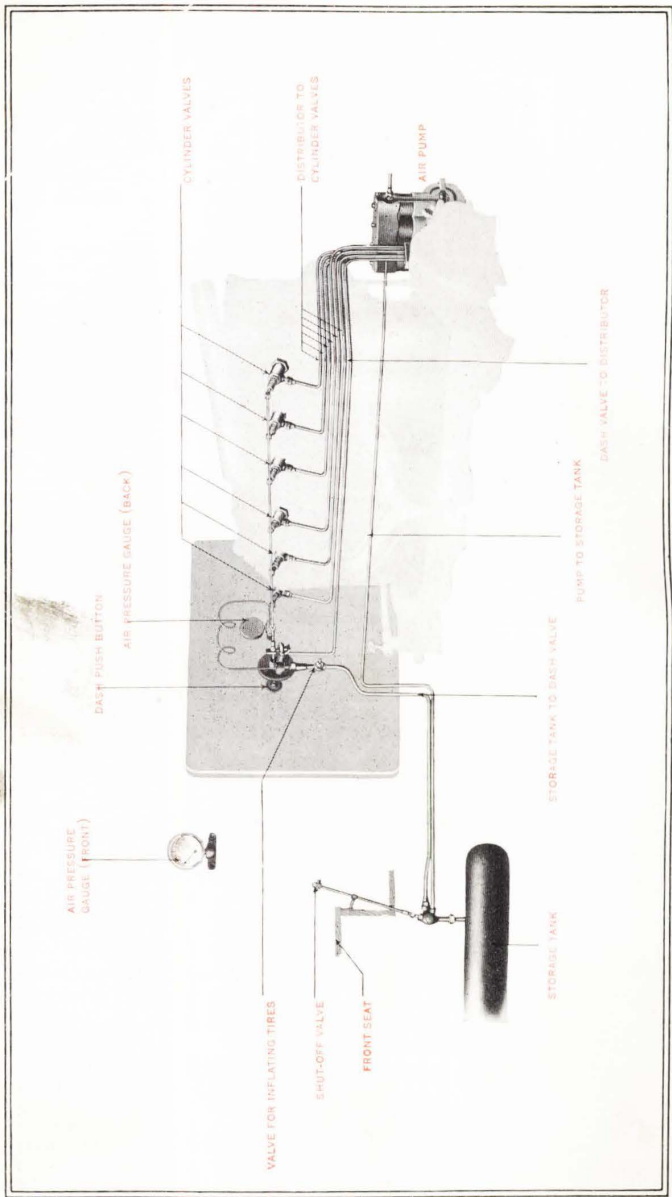
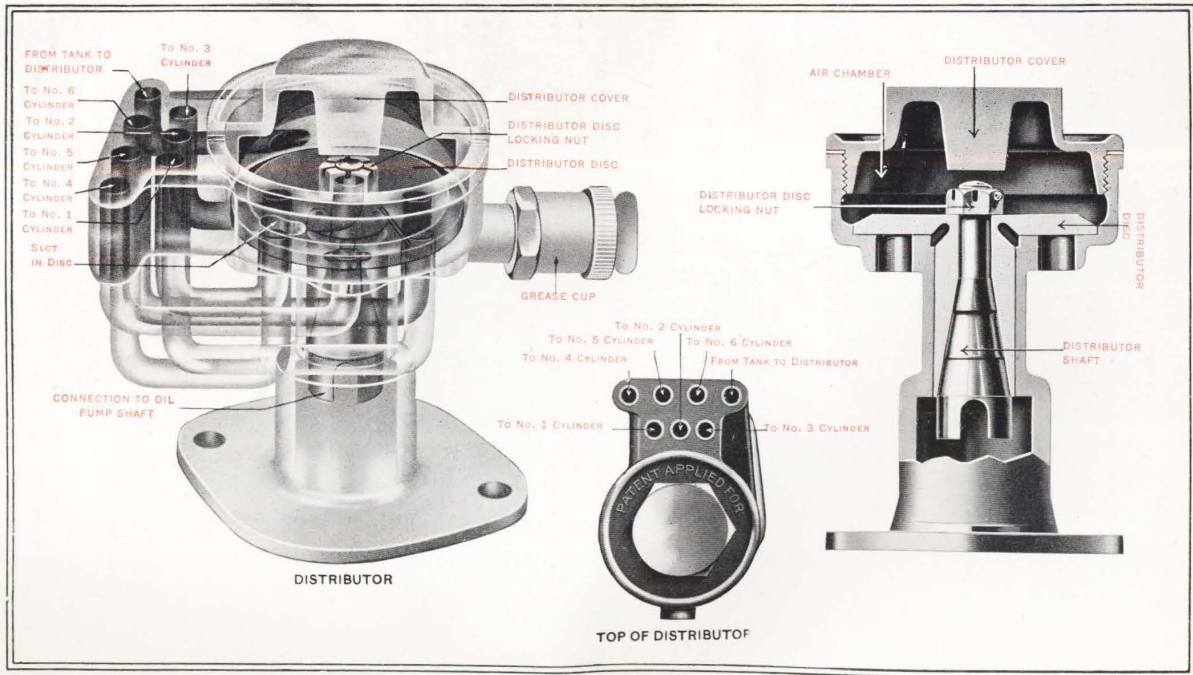
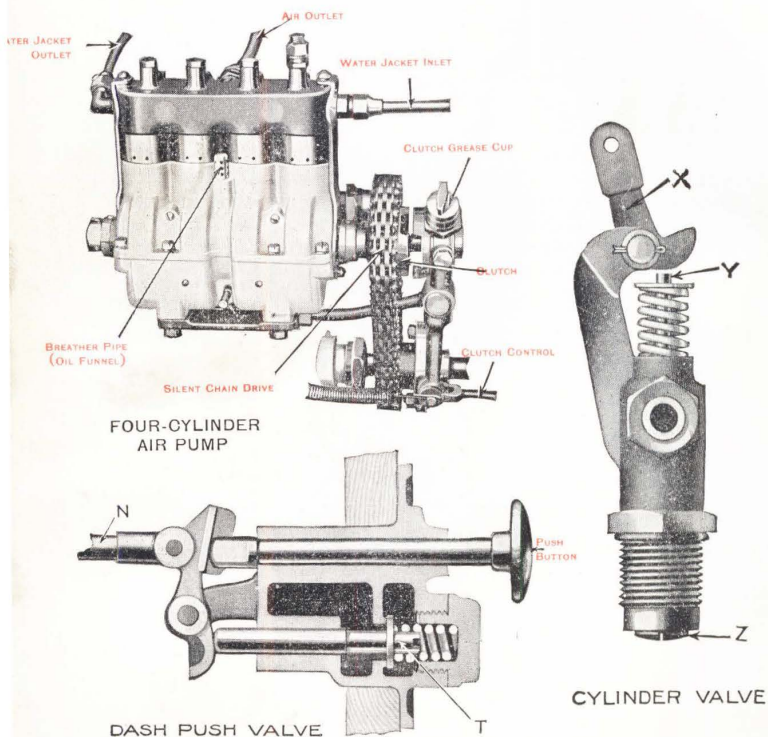

Fig. 15—Air Pressure Starting Mechanism of Chalmers "Six"
Fig. 16—Diagrammatic View of Self-starter Distributor
Fig. 17—Air Pump, Cylinder Valve and Dash Push Valve of Self-starter
The parts of the Chalmers Self-starter are as follows (See Fig. 15): a high pressure four-cylinder air pump for compressing air in "storage tank"; a pipe for carrying air from pump to storage tank; a pipe which carries air from storage tank to "push valve" on dash; a pipe which carries compressed air from the push valve to the "distributor"; six pipes through which air is carried from the distributor to the various cylinders; "poppet valves"—one in each of the six cylinders—by means of which compressed air from the distributor is admitted to the cylinder ready for the working stroke; a "pressure gauge" on the dash which keeps the operator informed of the amount of compressed air in the storage tank; a "pump clutch," operated by a foot pedal, which throws the gears of the air pump into mesh.
The four-cylinder air pump is located at the left side of the motor toward the front. (See Fig. 15 and Fig. 17.) It is a simple device for compressing the air and delivers a steady flow of compressed air to the storage tank. The pump is driven by a silent drive chain from the water pump shaft, and operates only when the gears are thrown into mesh by pressing the pump clutch foot pedal.
The pump is lubricated by a constant level splash system similar to that of the motor. Enough of the oil in the pump crank case works up to the underside of piston leathers to keep them in perfect condition; yet the pump will not deliver oil, but pure air. The pump crank case will hold about 2 ozs. of oil, and should be filled with Heavy (600-W) Steam Cylinder oil at least once a week. To lubricate pump remove breather cap (Fig. 17) and pour in the required amount of oil. The
Connected with the main air line at the storage tank is a shut-off valve (Fig. 15), which should be closed at night or when the car is left standing for a long time. The handle of the shut-off valve projects through the heel board at the front of the driver's seat. The shut-off valve is merely a protection against small leaks in the starting mechanism.
The dash push valve (Figures 15 and 17 and Page 11) has a double function—opening the air line from the storage tank to the distributor, and opening the poppet valves in the cylinders.
Pressure upon the push button (Fig. 17) opens the valve (T) and allows air to escape from the storage tank through a pipe (Fig. 15) to the distributor. Simultaneously the dash valve button opens the cylinder valves (Fig. 15) so that air, coming from the distributor through the pipes shown in Figure 15 has ready access to the cylinders. When the foot is removed from the dash button, both the escapement valve and the cylinder valves are closed automatically and the compressed air starter is shut off from the motor.
The function of the distributor (Fig. 16) is to send charges of air into the cylinders ready for the working stroke, in their order of firing. The distributor is geared to the pump and magneto shaft and positively timed, so that the charges of compressed air are fed to one cylinder at a time.
The distributor (Figures 15 and 16) consists merely of an air tight case in which operates a small gear-driven disc (Fig. 16). This disc is bolted to its shaft and rotates on a bronze seat. As the disc revolves, the air above it passes through the slot (Fig. 16) into one of the six holes beneath the disc and thence to the proper cylinder, which is ready for the explosion stroke.
The purpose of the cylinder valves (Figures 15 and 17) is to prevent the escape of cylinder compression into the Self-starter system during the regular operation of the motor.
As the button of the dash push valve is depressed, a bar (Fig. 15 and N, Fig. 17) opens the six cylinder valves by depressing a small lever (X, Fig. 17) pushing down the valve stem (Y) and raising the valve proper (Z) from its seat. This operation gives the air charge an uninterrupted passage from the distributor pipe directly into the cylinder.
To inflate tires: First, attach hose to special shut-off valve (Fig. 15) under the hood near the dash at the right side of the car. Fasten other end of hose to tire. Open shut-off valve until tire is inflated with the proper pressure. Be sure to close shut-off valve before removing hose.